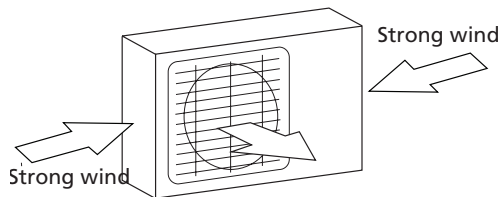

Fig. 6.1
- ☑ If the location is exposed to strong winds (for example, near a seaside), place the unit against the wall to shelter it from the wind. If necessary, use an awning (see Fig. 6.1 & 6.2).